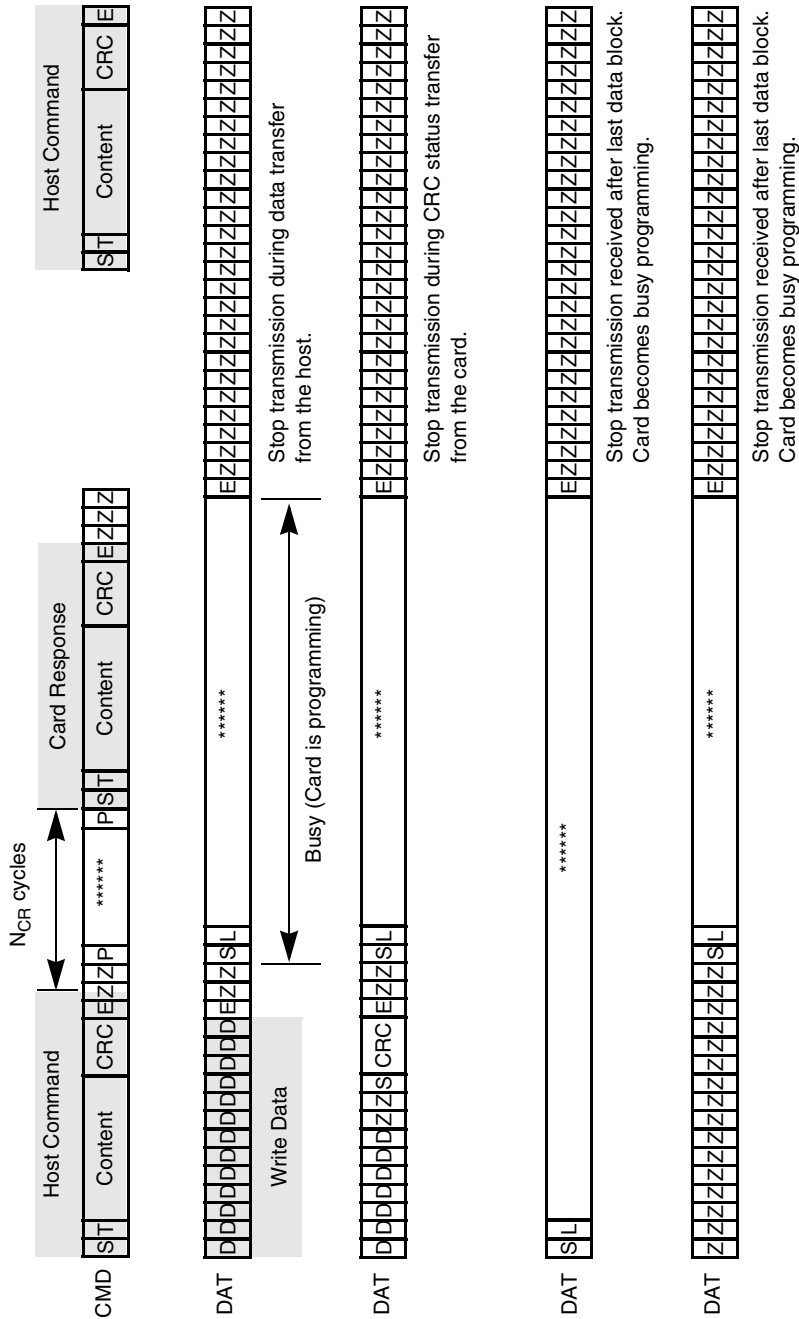

Figure 30. Stop Transmission During Different Scenarios
The card identification and card operation conditions timing are processed in open-drain mode. The card response to the host command starts after exactly  $N_{ID}$  clock cycles. For the card address assignment, SET\_RCA is also processed in the open-drain mode. The minimum delay between the host command and card response is  $N_{CR}$  clock cycles as illustrated in Figure 26. The symbols for Figure 26 through Figure 30 are defined in Table 26.
**Table 26. State Signal Parameters for Figure 26 through Figure 30**
The stop transmission command may occur when the card is in different states. Figure 30 shows the different scenarios on the bus.
Table 27. Timing Values for Figure 26 through Figure 30